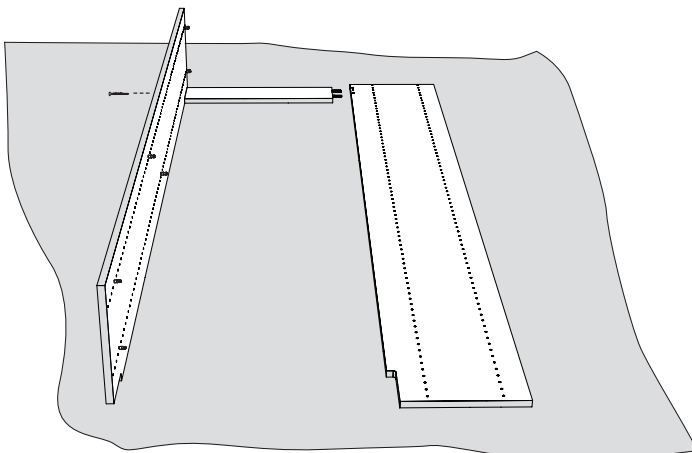

Fig. 3
3. Turn panel over and thread one (1) HiLow screw from hole in outside of left panel into center hole of cleat. See Fig. 3.